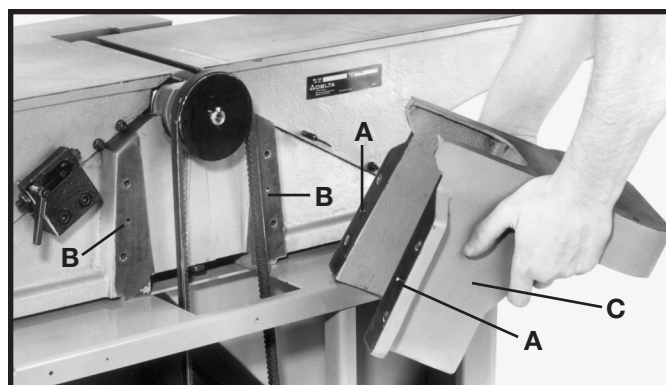

Fig. 13
1. Position two alignment pins (A) Fig. 13, with two alignment holes (B) in jointer base.